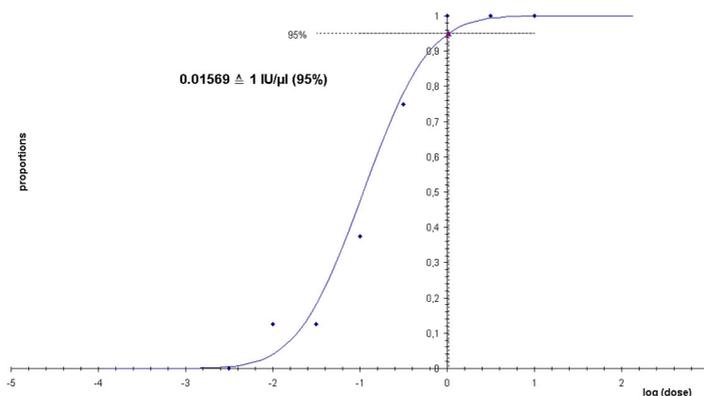

Fig. 8: Analytical sensitivity of the *artus* Parvo B19 LC PCR Kit.
0.03 Parvo B19 IU\*/ $\mu$ l and analyzed with the *artus* Parvo B19 LC PCR Kit. Testing was carried out on three different days on eight replicates. The results were determined by a probit analysis. A graphical illustration of the probit analysis is shown in Fig. 8. The analytical detection limit of the *artus* Parvo B19 LC PCR Kit is 1 IU/ $\mu$ l ( $p = 0.05$ ). This means that there is a 95 % probability that 1 IU/ $\mu$ l will be detected.